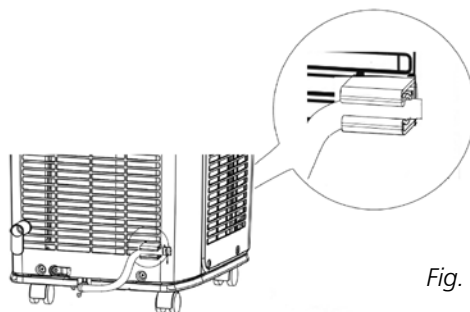

Fig. 22
- 4 If the hose is not being used to drain the condensation, place the hose in the hose holder to prevent leaks (see fig. 22).